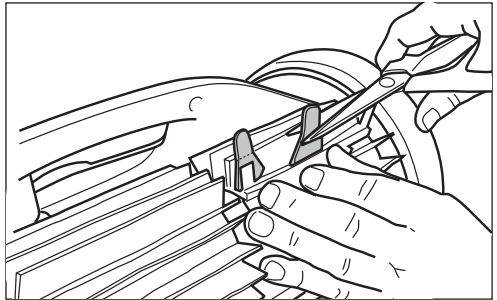

Figure 19. Cut Tabs at Guides
5. Use scissors to cut the tabs at the guides (Figure 19).